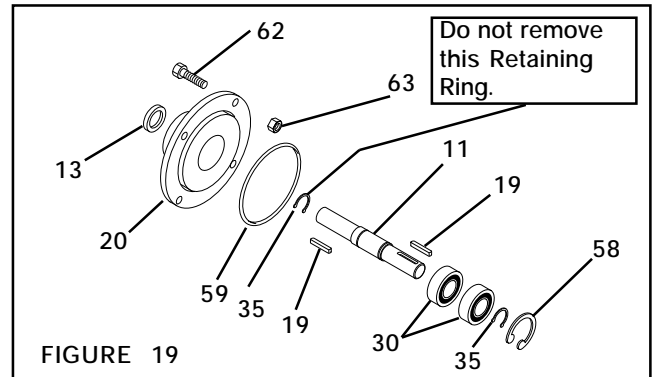

FIGURE 19
5. Remove the O-ring Seal (Item 59) (See Figure 19).
6. Remove both Keys (Item 19) (See Figure 19).
7. Remove the Retaining Ring (Item 58) (See Figure 19).
8. Supporting the Bearing Flange (Item 20), press the Stub Shaft (Item 11) and Bearings (Item 30) out of the Bearing Flange (See Figure 19).
9. Remove one Retaining Ring (Item 35) (See Figure 19).
One Retaining Ring must remain on the Stub Shaft (See Figure 19).
10. Press the Stub Shaft (Item 11) out of the Bearings (Item 30) (See Figure 19).
13. Remove the Variseal™ (Item 13) from the Bearing Flange (Item 20) (See Figure 19).
15. Install the Retaining Ring (Item 58) (See Figure 19).
17. Press the Variseal™ with the spring facing out onto the Stub Shaft and into the Bearing Flange (See Figure 19).
18. Apply a drop of Loctite® 242 to the Keys (Item 19) (See Figure 19).
19. Press the Keys (Item 19) into the Stub Shaft (Item 11) (See Figure 19).